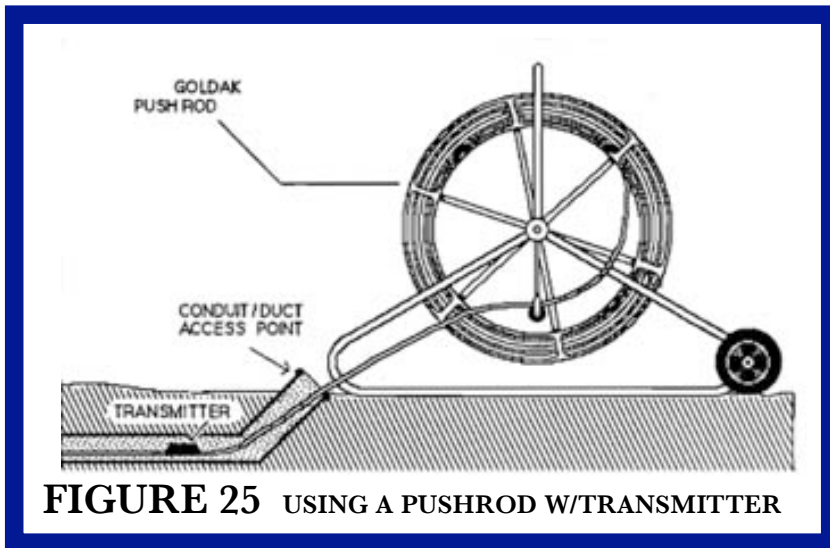

FIGURE 25 USING A PUSHROD W/TRANSMITTER
a) **Use of a push rod.** The tape-on transmitters, the 3330 and the 3350, and be attached to either an electrician's tape or a fiberglass push rod since a rod (**Figure 25**) can be fed down a line in a small fraction of the time of an electrician's tape.